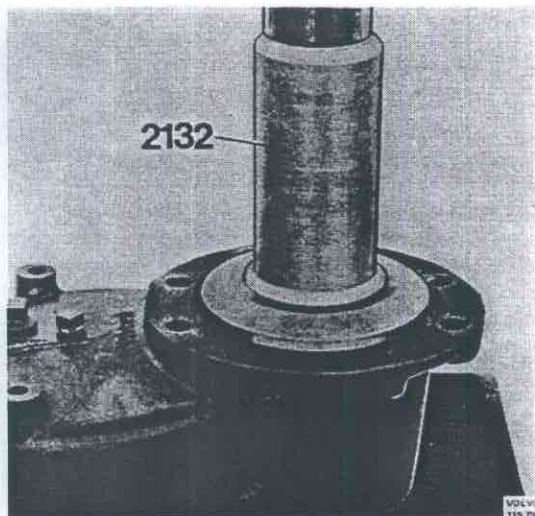
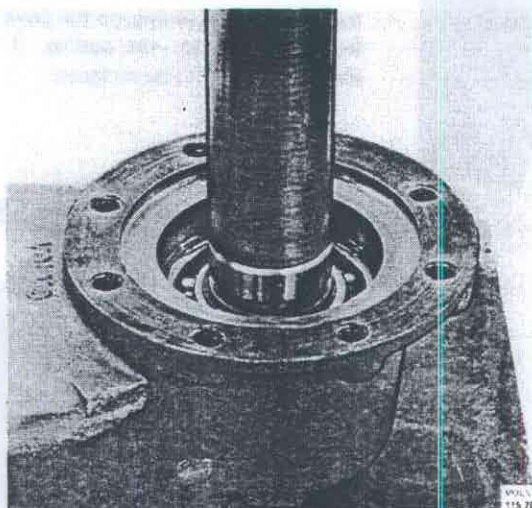

Fig. 46-117. Pressing in the seal
fig. 46-116. Pressing in the wear ring
6. Press the wear ring into gear wheel, Fig. 46-116. Grease the sealing ring surface. Press down the seal with 2132, Fig. 46-117.